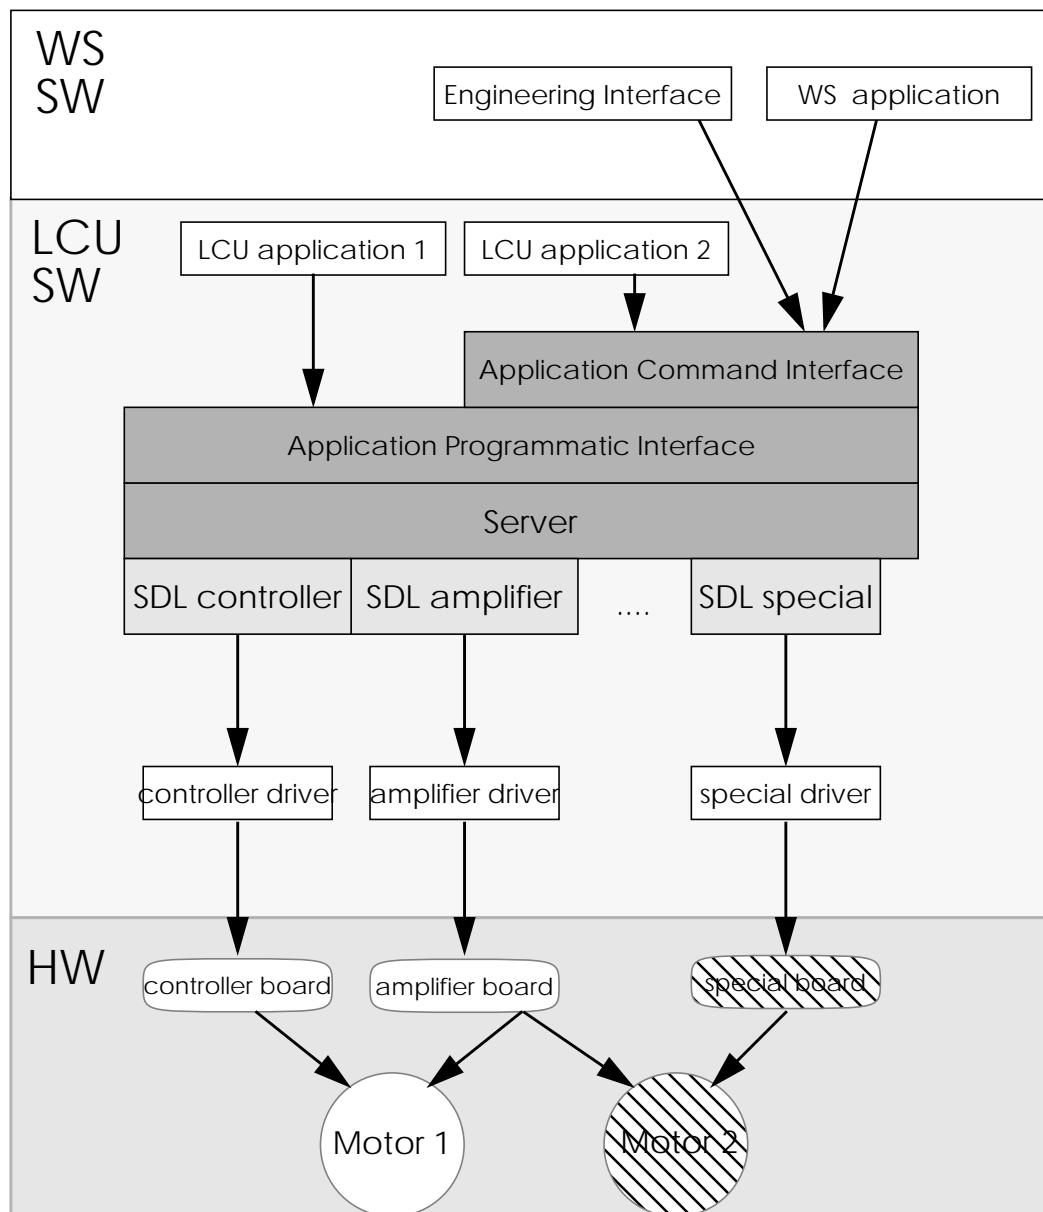

Figure 2 - Role played by the various MCM components
- The interface to the applications is covered by the modules **mot** (API), and **motci** (ACI), which are described later in this document. The API provides a library of routines callable by LCU applications, while the ACI provides a LCU process implementing a set of commands which can be sent by LCU and WS applications (see also Figure 2).
The **mot** SW module consists in two parts: the API functions and the Server routines. The API functions are the one that are invoked by the application, the Server routines manage the interface to the SDL layer; they operate on a single motor (see Figure 2).